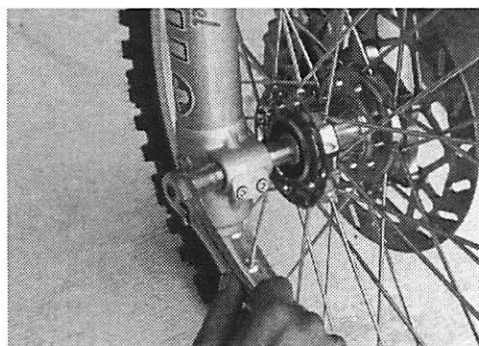

Figure 5.7
6. Remove the front axle using a 17 mm socket or wrench. (Figure 5.7)